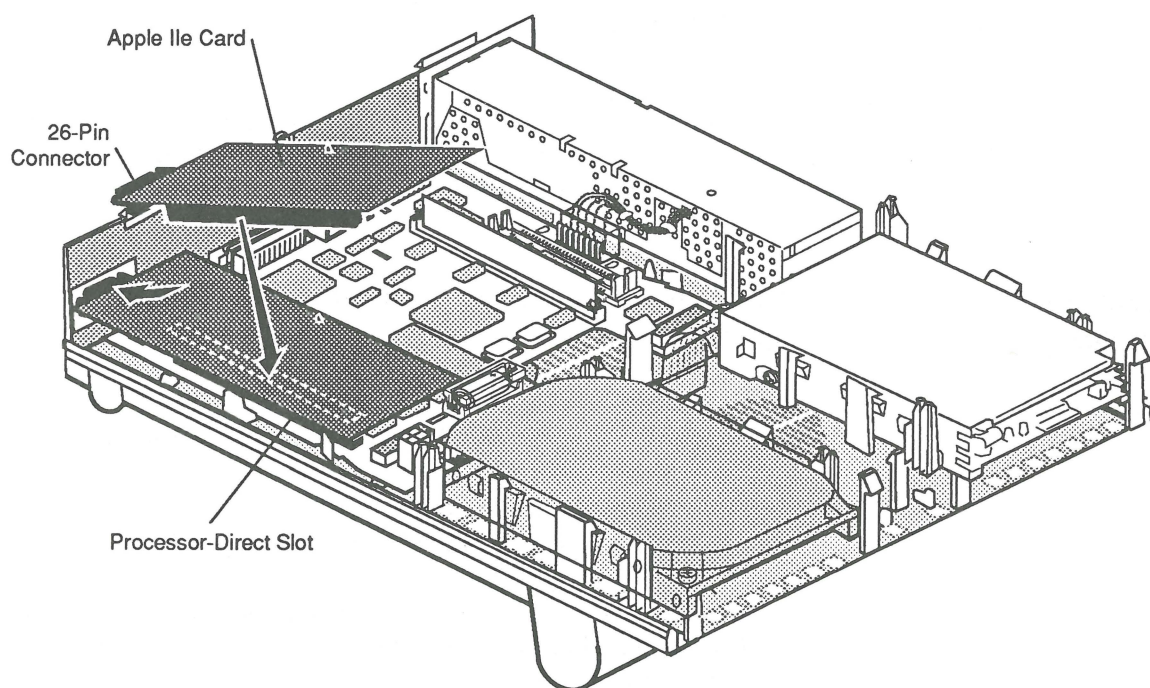

Figure 1-2 Installing the Apple IIe Card
6. **Figure 1-2.** Turn the card component-side-down. Align the 96-pin connector on the card with the processor-direct slot on the main logic board, and join the two connectors.